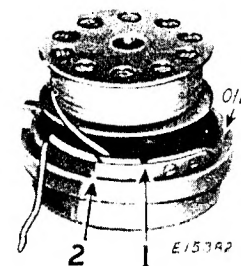
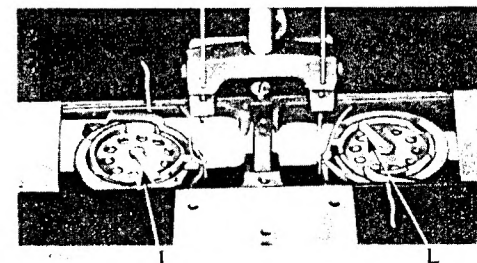

Fig. 10. Direction of Thread on Bobbin
Fig. 11. Bobbin Cases Threaded
Apply a few drops of oil four times daily to the felt pad in the side wall of each bobbin case as illustrated in Fig. 10.
Hold each bobbin between the thumb and forefinger with the thread drawing on the bottom from left to right as shown in Fig. 10 and place
it on the center stud of the bobbin case, then push down the latch (L, Fig. 11). Draw the thread into the slot (1, Fig. 10), under the tension spring and into slot (2) as shown in Figs. 10 and 11, leaving a loose end of thread about two inches long above the slide. When closing the slide plates, leave just enough space for the threads to pass through.